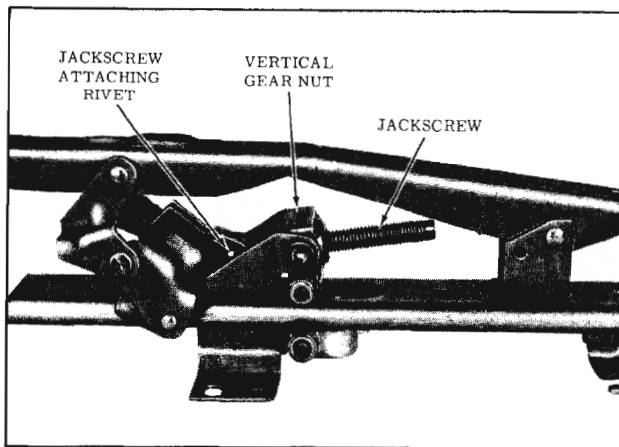

Fig. 16-80 Four-Way Tilt Seat Adjuster
3. As a bench operation, remove jackscrew-to-adjuster linkage attaching rivet and remove jackscrew from adjuster assembly. (Fig. 16-80)